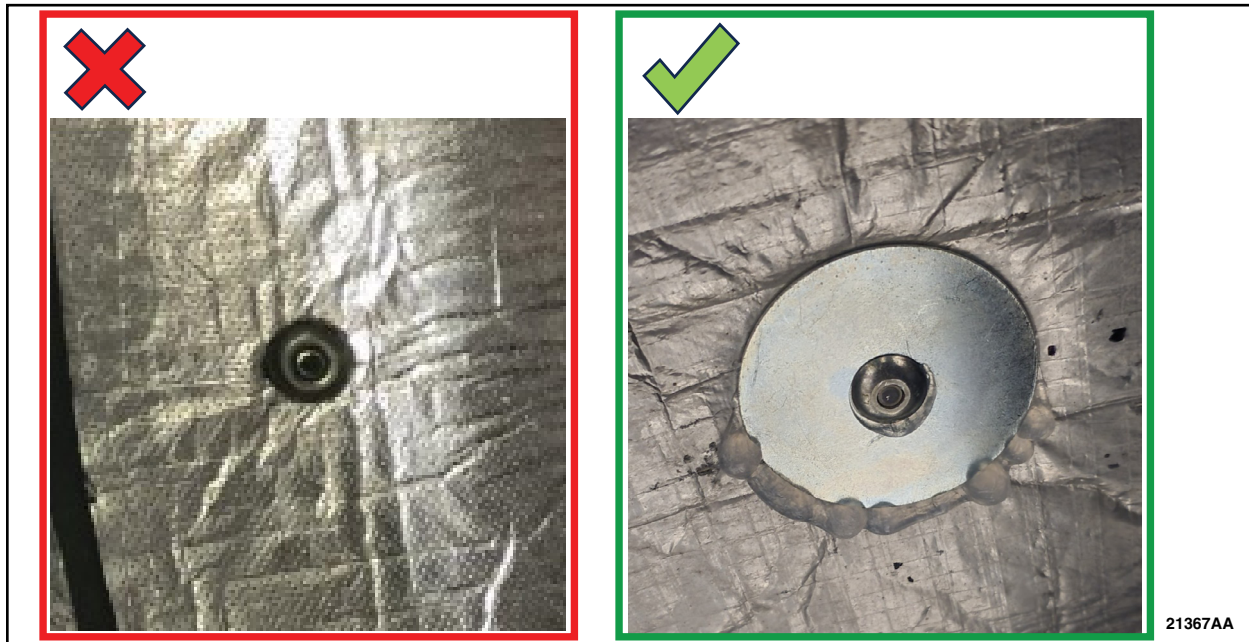

FIGURE 10
15. Using a M18-1/4" rivet gun, install the rivet and washer to the drilled hole. See Figure 10.